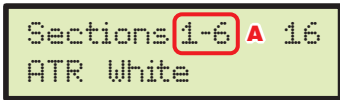

Fig. 62
- Press **OK** to automatically pass to the setting screen of the other parameters (Fig. 62):
DATA B, C AND D RELATE TO THE SELECTED SECTION COUPLE, A in Fig. 62.
- C** Nozzle type: set the type of nozzle (ATR, HCC, ISO or USR, Fig. 62) for the selected boom section.